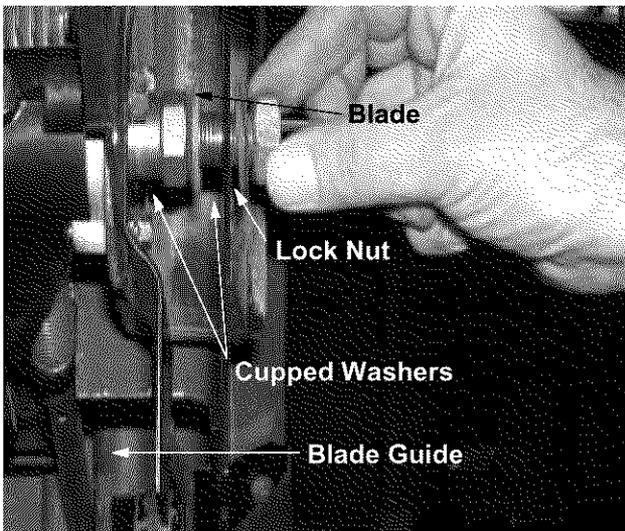

Figure 19
2. Remove the blade and two bell washers. See Figure 19.